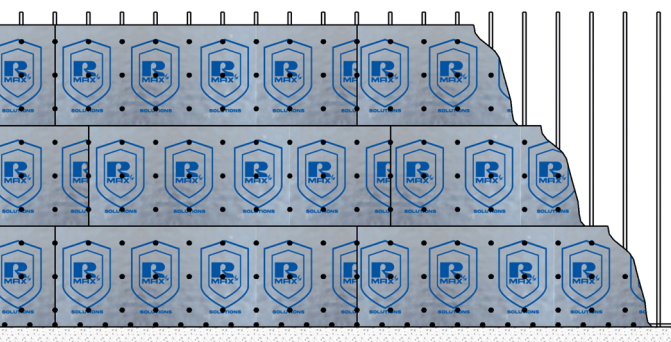
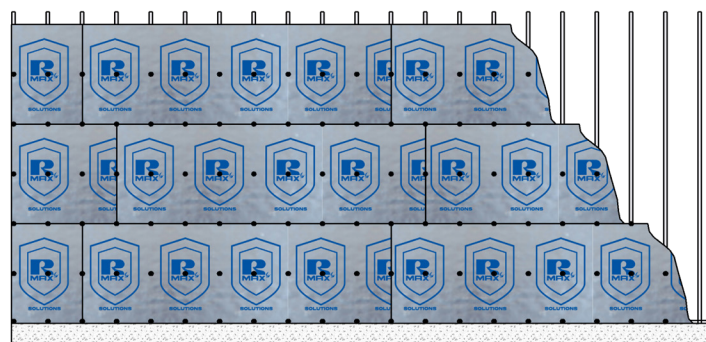

Figure 2
Figure 3
B. Fastening Pattern: Secure insulation boards at each stud with fastening pattern show in **Table 1** based on insulation board thickness. The maximum fastening pattern for insulation less than 1.5" is 12" on center at the perimeter of the wall and rough openings and 16" on center throughout the wall field offset 8" from the horizontal joints. **Reference Figure 2.** The maximum fastening pattern for insulation 1.5" and greater is 24" on center vertically at every stud. **Reference Figure 3.**